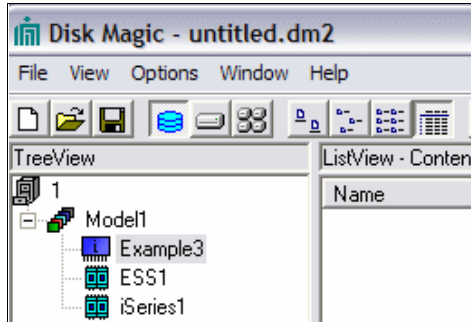

Figure 4-68 Disk Magic model for iSeries with external disk
2. After you insert the performance reports, Disk Magic creates one disk subsystem for the I/O rate and capacity part of the iSeries workload that runs on ESS 800, and one disk subsystem for the part of the workload that runs on internal disks, as shown in Figure 4-68.